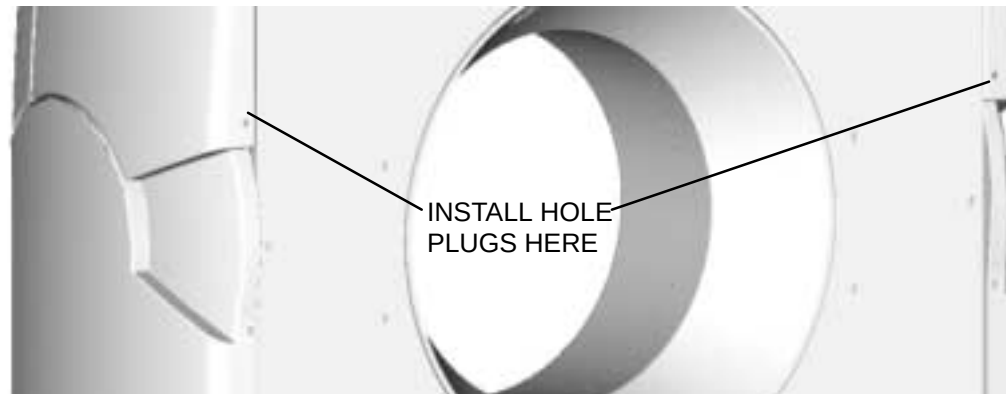

FIGURE 19 REAR HOLE PLUG INSTALLATION
2. Install the Hole Plugs (p/n T39A-1013) at the two locations shown in Figure 19.